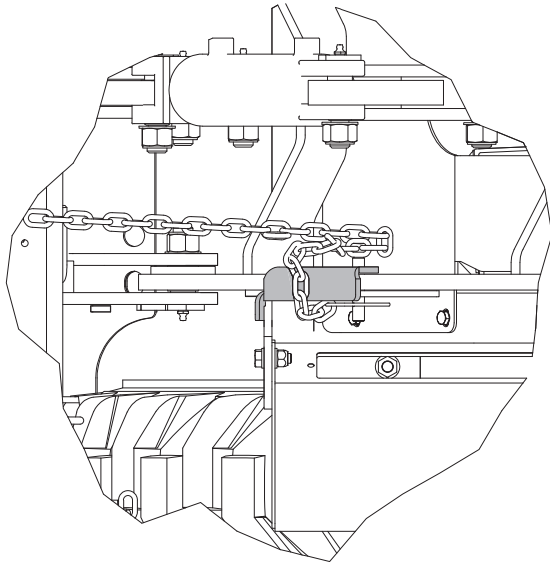

Figure 4. Arm lock clamped to the loader arm.
11. If the Digger Terminator is fitted with the Stump Grinder arm lock, affix it to the left-hand side of the loader, ensuring the pin is correctly positioned in its receptacle and is locked using the attached "R" clip. See Figure 4.